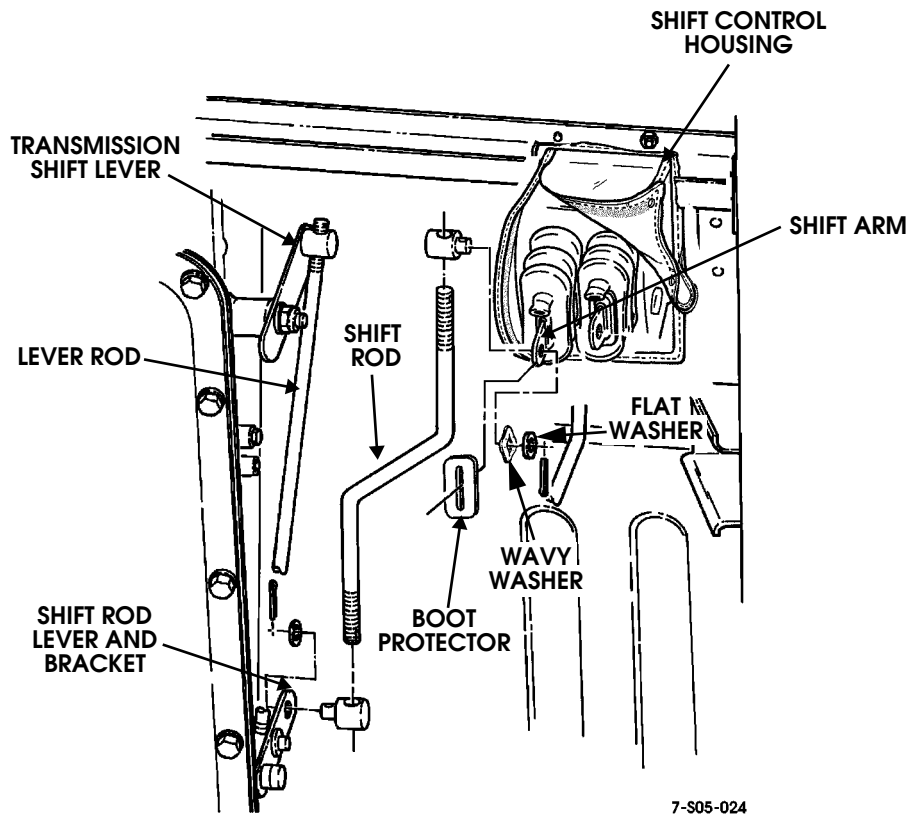

Figure 5-57: Shift Linkage Disassembly/Assembly
3. Remove cotter pin and washer from shift rod rear trunnion. Disconnect trunnion and remove wave washer and shift rod from shift rod lever (Figure 5-57).